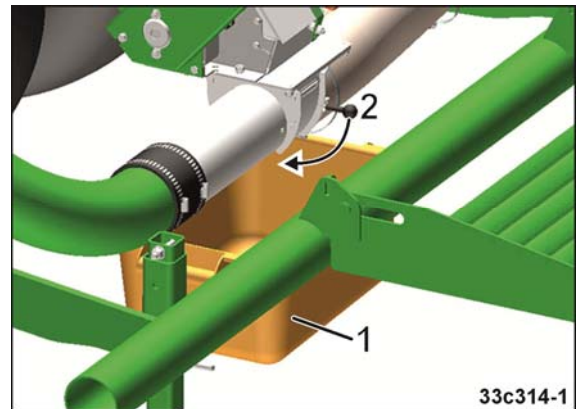

Fig. 52
3. Place a collection bucket under each metering unit (Fig. 52/1).
4. Open the injector sluice flap (Fig. 52/2).
Risk of crushing when opening and closing the injector sluice flap (Fig. 52/1)!
Only hold the injector sluice flaps on the tab (Fig. 52/2), otherwise there is a risk of injury when the spring-loaded injector sluice flap closes.
- o Close the injector sluice flap very carefully (see Fig. 52, page 71),